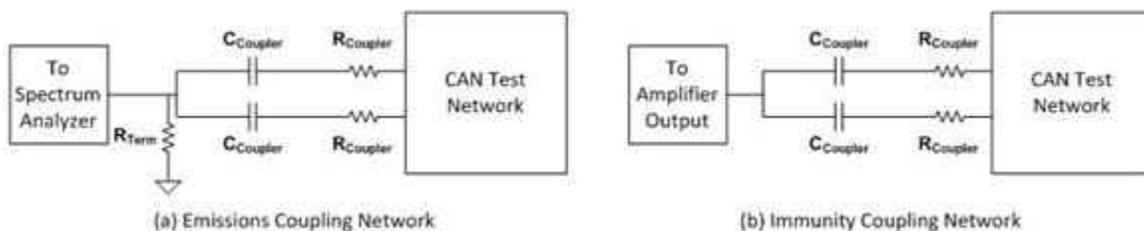

Figure 1. Differential (a) emissions and (b) immunity coupling networks
Two critical metrics for EMC performance for CAN transceivers are immunity to radio frequency (RF) noise and emissions of RF noise. The International Electrotechnical Commission (IEC) 61967-4 (Measurement of Electromagnetic Emissions) and IEC 62132-4 (Measurement of Electromagnetic Immunity) measure both metrics. In both standards, noise is either measured from or injected into the network using differential common-mode coupling networks, shown in Figure 1.
When measuring CAN network emissions through the coupling network shown in Figure 1\(a\), an ideal differential CAN signal on one side of the network would result in no electrical disturbance on the other side of the coupling network. But the introduction of mismatch into CAN signals (as either propagation delay between the rising and falling edges, rising/falling edge rates, or magnitude about the common mode) creates a common-mode signal that will pass through the coupling network to the spectrum analyzer. These variations in common mode cause electromagnetic emissions. Figure 2 shows examples of the ideal signal, all three mismatch types and the resulting common-mode signals.
Additionally, since CAN is typically wired using twisted-pair cabling, any noise coupled onto the cable presents itself as a common-mode variation, which is precisely why noise is coupled in this manner in the IEC 62132-4 standard as show in Figure 1\(b\).